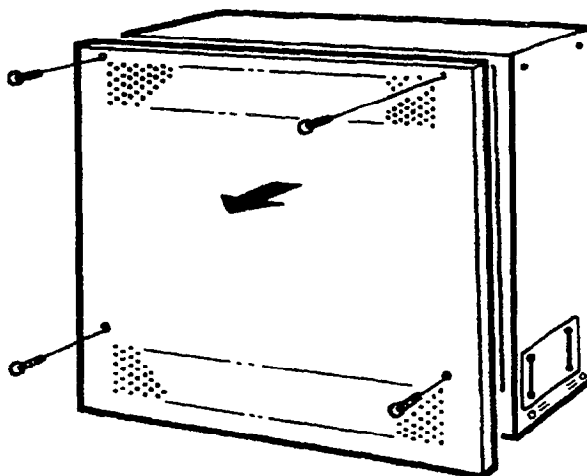

Figure 3-9 Removing the Level II Basic KSU Cover
1. Loosen the four cover screws and remove the front cover. Refer to Figure 3-9 - Removing the Level II Basic KSU Cover.